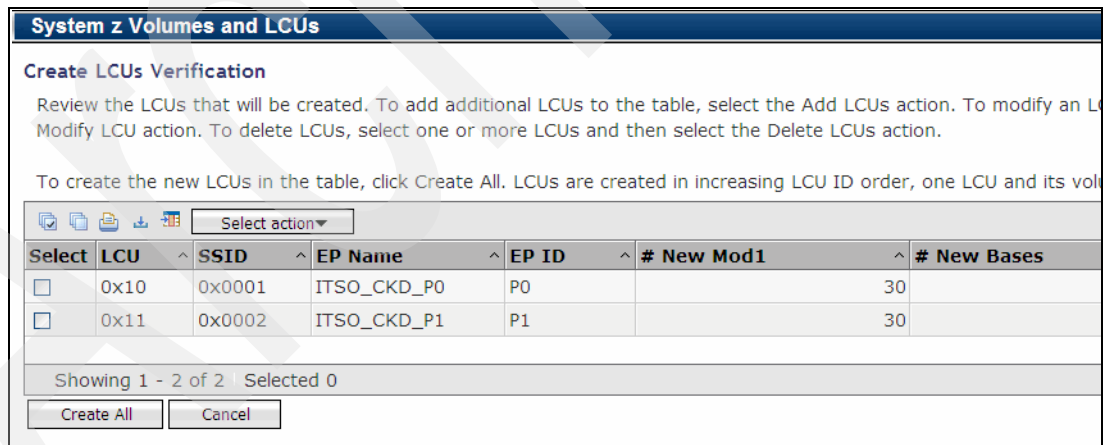

Figure 13-71 Create LCUs Verification window
- The Create LCUs Verification window appears, as shown in Figure 13-71, where you can see list of all the volumes that are going to be created. If you want to add more volumes or modify the existing ones, you can do so by selecting the appropriate action from the Select action drop-down list. Once you are satisfied with the specified values, click **Create all** to create the volumes.